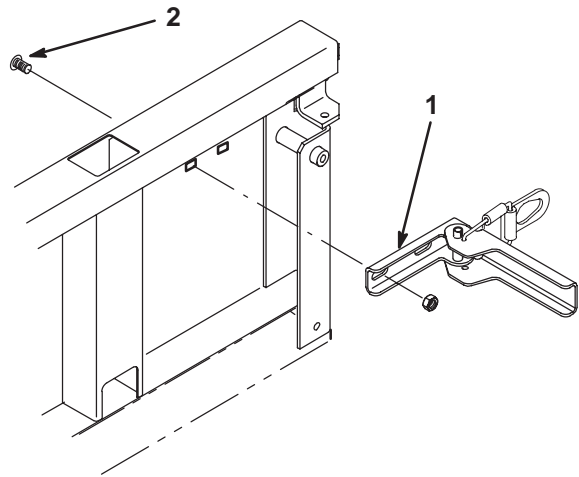

Figure 5
11. Loosely mount a tailgate latch assembly to each side panel with (2) 5/16– 18 x 5/8” lg. carriage bolts and flange locknuts as shown in figure 5.